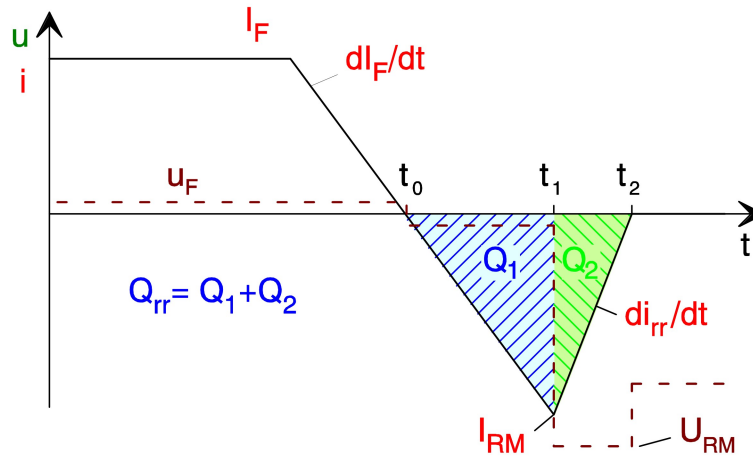

Figure 2: Turn-off behavior of a fast silicon diode
8. Beside the conduction losses also switching losses need to be considered in reality. In this part the switching losses of a fast diode are compared to a normal silicon diode. Figure 2 illustrates the current and voltage waveforms during a turn-off event of a fast diode.